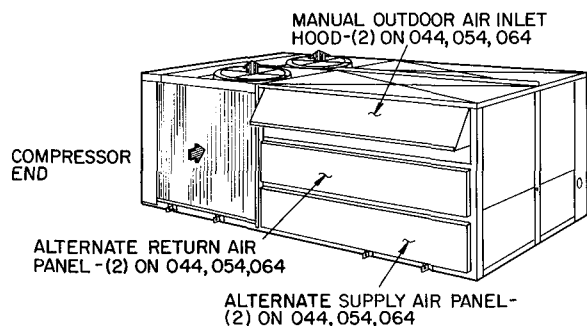

Fig. 5 — Physical Data
- Remove alternate return air panel(s) and alternate supply air panel(s) from base unit (Fig. 5). Save screws.